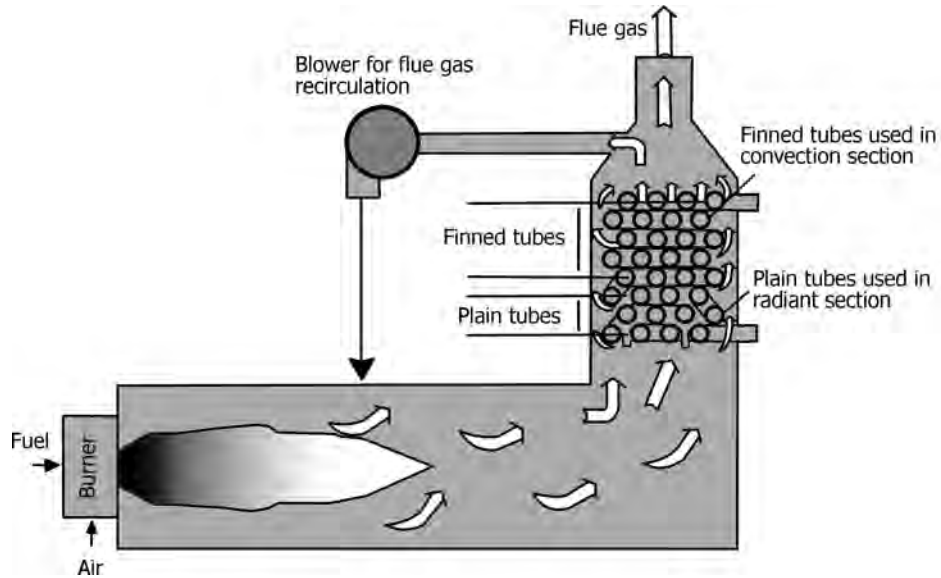

FIGURE 14.10 Convective heater with flue gas recirculation.
- Figure 14.10 illustrates a convective heater with flue gas recirculation.